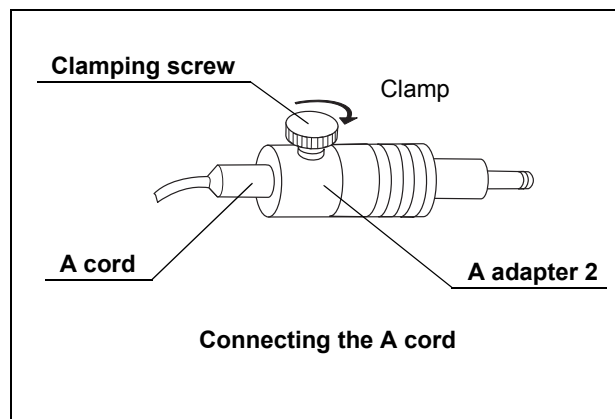

Figure 3.8
3. Turn the clamping screw of the A adapter 2 clockwise to securely clamp the A cord. Take care not to overtighten the clamping screw as this could damage it (see Figure 3.8).